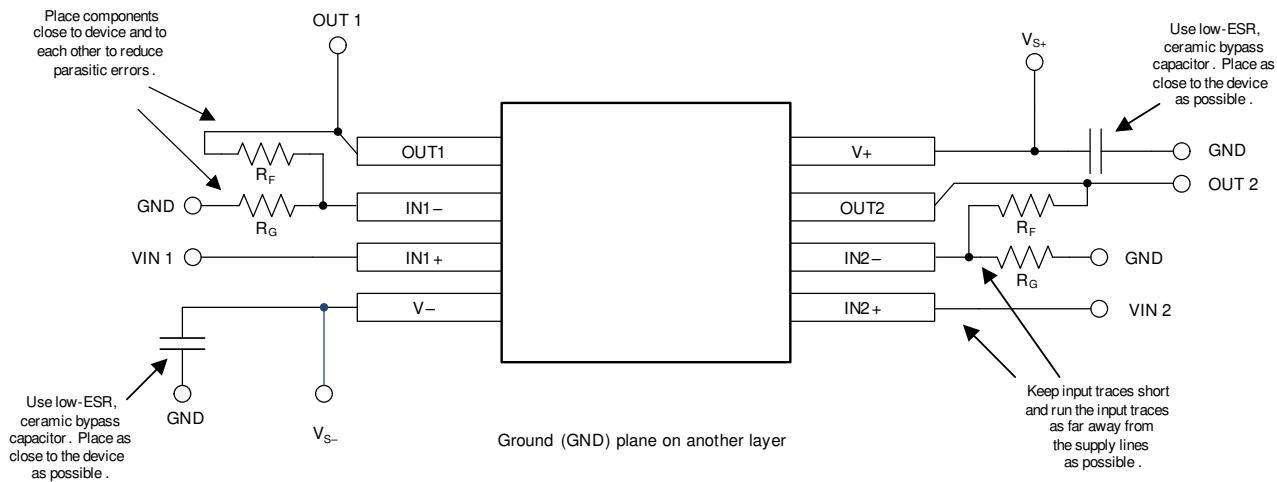

図 8-4. Layout Example
- Place the external components as close to the device as possible. As illustrated in 図 8-4, keeping R_F and R_G close to the inverting input minimizes parasitic capacitance on the inverting input.